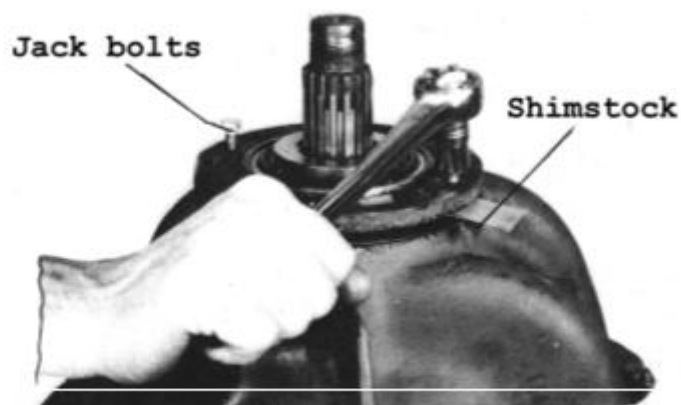

Fig 41
- * Drive the seal from the pinion oil seal retainer. If required, screw two "jack" bolts in the holes provided and pull the bearing cage from the carrier assembly (Fig. 41). This pulls the outer pinion bearing cone from the shaft.
- * After the bearing cage is pulled out a short distance, back off the puller screws and insert shim-stock or plate under the puller screws before pulling is continued. This is to reduce possible damage to the shim-pack under the flange of the bearing cage (Fig. 41).